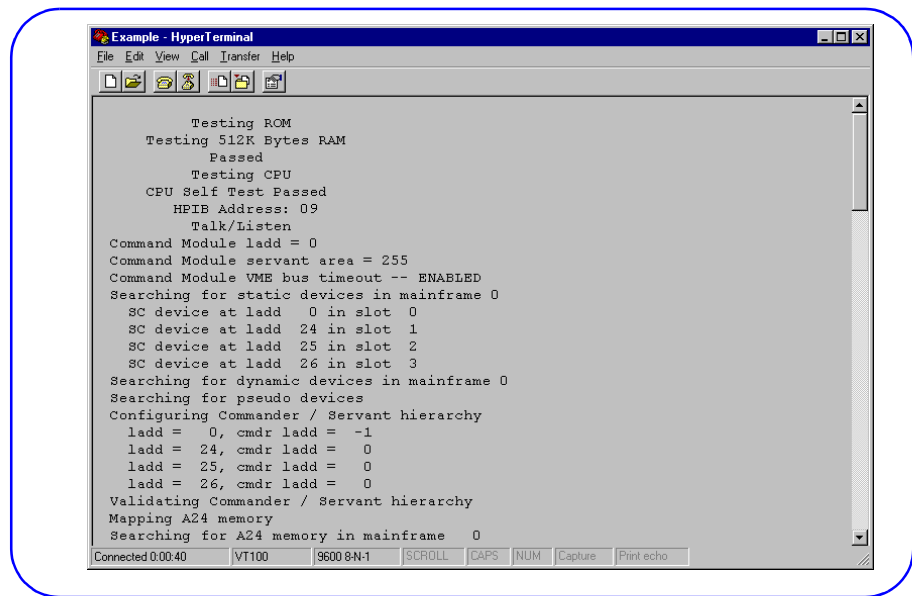

Figure 39. Typical Resource Manager Display
- 6 When the *session name* - **HyperTerminal** screen is displayed, turn mainframe power ON and observe the (Resource Manager) display. See the *HP E1406A Command Module User's Guide* for details on the display. See Figure 39 for a portion of a typical Resource Manager display.